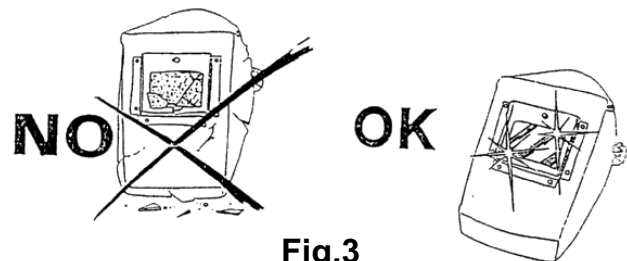

Fig.3
• The colored filter (inactinic filter) must be kept clean at all times. Should it break or deteriorate (Fig. 3), replace it with a new filter, with the same degree of opacity. The colored filter must be protected against impact and welding projections by means of a transparent glass positioned on the anterior part of the mask. This transparent glass must be replaced whenever visibility is reduced during welding.